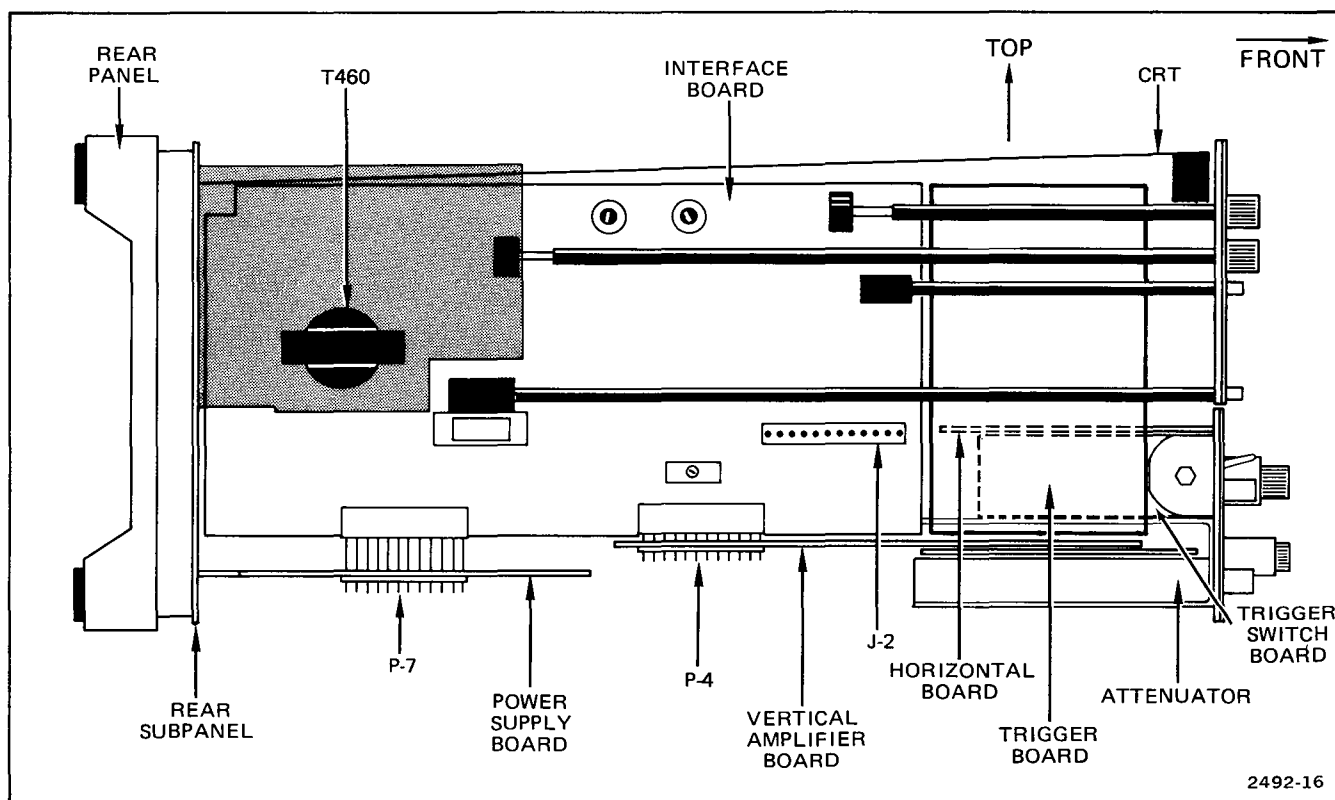

Fig. 5-7. Circuit board locations (on left side of crt).
To remove the vertical amplifier (see Fig. 5-7) from the instrument:
2. Disconnect P4 (see Fig. 5-7) from J4 on the Interface board by lifting the entire vertical amplifier. Be careful not to bend the pins.
4. Remove P2 (see Fig. 5-7) from J2 on the Interface board by pulling the entire Time Base toward the right side of the instrument. Be careful not to bend the pins.
2. Remove P2100 (see Fig. 5-7) from trigger board.
3. Disconnect P7 from J7 on the Interface board by lifting the Power Supply board and transformer out. (See Fig. 5-7).